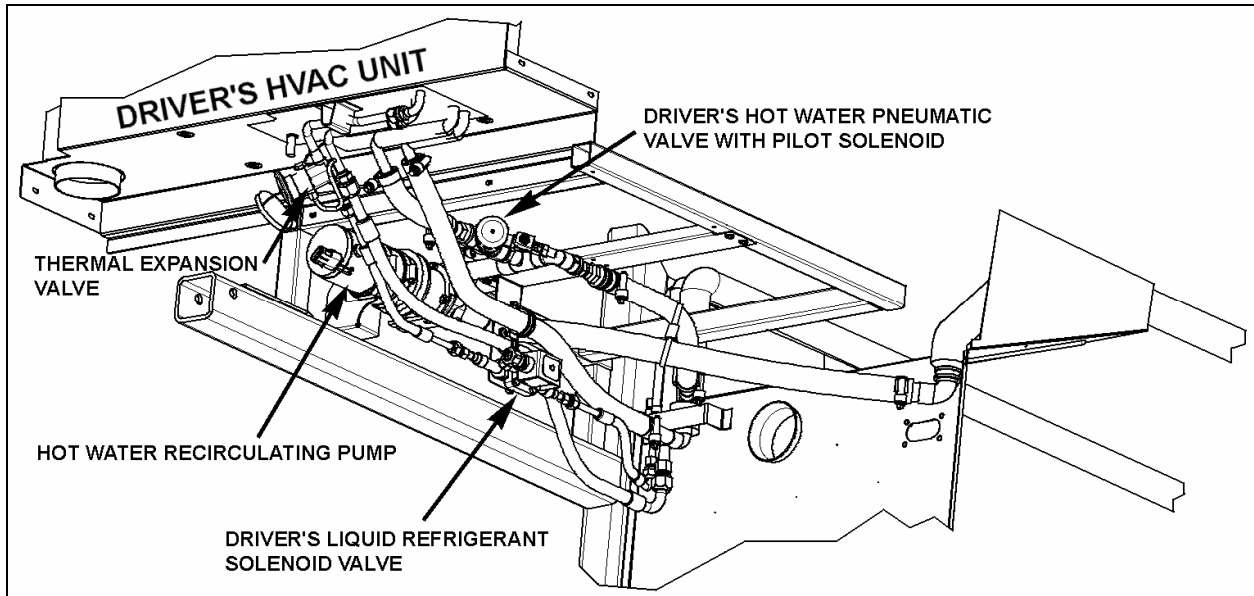

FIGURE 52: CEILING OF THE SPARE WHEEL COMPARTMENT
- b) Locate the normally open hot water pneumatic valve on the ceiling of the spare wheel compartment (Fig. 52), move the pilot-solenoid valve red tab to close the valve.
Refer to figure 52 for hot water pneumatic valve location and to paragraph 11.1.5 for more information.
Refer to figure 52 for pump location and to paragraph 11.1.7 for more information.